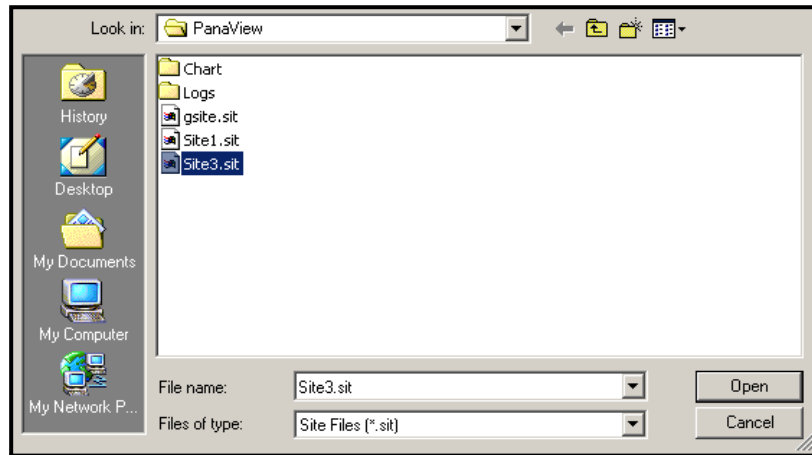

Figure 31: Site File Selection
2. Then click on the *Save Site to Meter* button. A screen opens similar to *Figure 31* below.
3. The *Site File Selection* window (*Figure 31 on page 99*) opens. Highlight a site with the desired settings, and click [Open]. PanaView saves the site in the meter with the new name and the desired settings.
3. The *Site File Selection* window (shown in *Figure 31 on page 99*) opens. Enter the desired site name (now with a .prt suffix) and click [Save]. PanaView displays a text version of the site, as shown in *Figure 33* below.